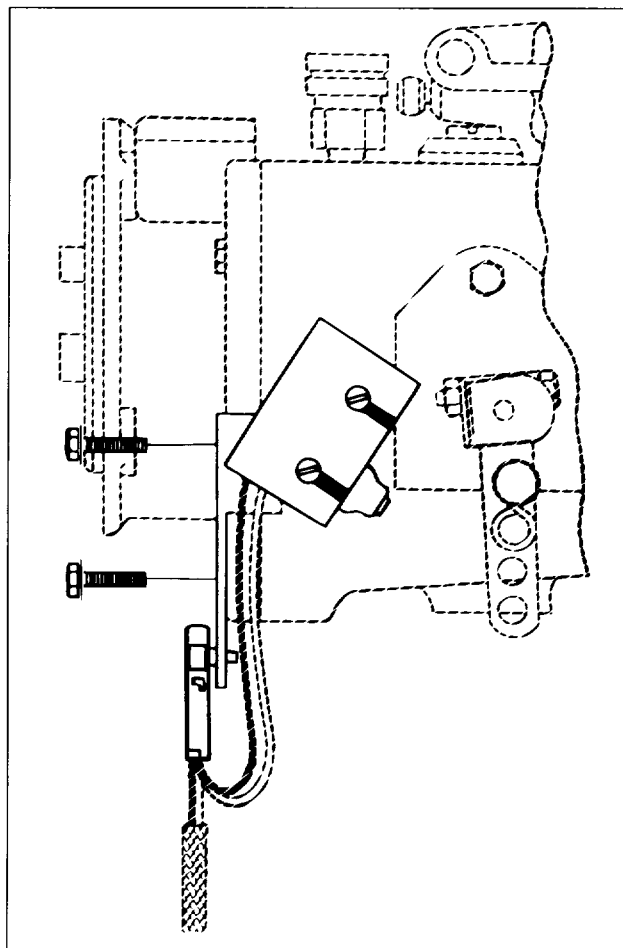

FIG. 40
1. Remove the two cap screws and washers from the pump as shown in Fig. 40.